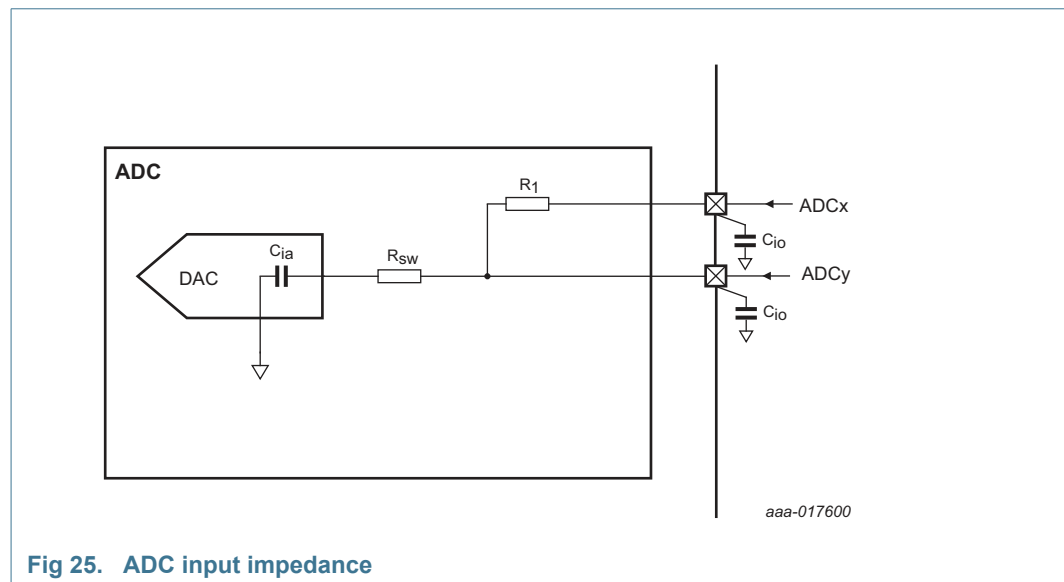

Fig 25. ADC input impedance
- [10] Input impedance  $Z_i$  is inversely proportional to the sampling frequency and the total input capacity including  $C_{ia}$  and  $C_{io}$ :  $Z_i \propto 1 / (f_s \times C_i)$ . See Table 16 for  $C_{io}$ . See Figure 25.
- (1) Example of an actual transfer curve.
- (2) The ideal transfer curve.
- (3) Differential linearity error ( $E_D$ ).
- (4) Integral non-linearity ( $E_{L(adj)}$ ).
- (5) Center of a step of the actual transfer curve.
Figure 25 shows the ADC input impedance. In this figure: